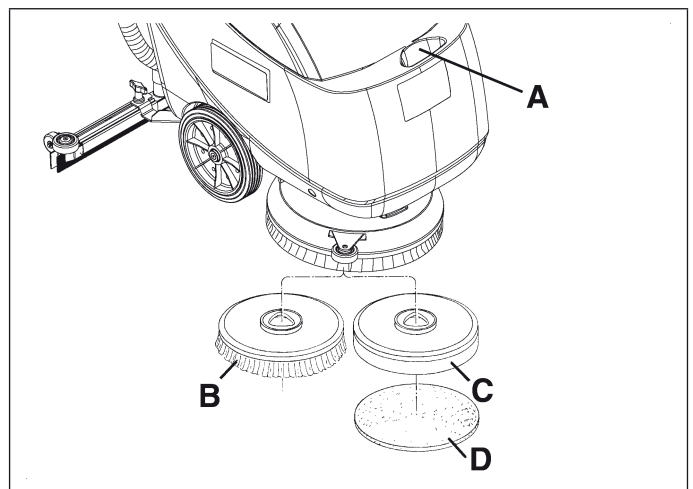

Figure 11
2. Fill the solution tank (A, Fig. 11) with a solution suitable for the work to be carried out. Do not fill the solution tank completely, leave few inches from the edge. Always follow the dilution instructions on the container label on the chemical product used to create the solution. The solution temperature must not exceed 100°F (40°C).
According to the kind of cleaning to be carried out, the machine can be equipped both with the brush (B, Fig. 11) and the pad-holder (C) with pad (D).
5. Place the brush (B, Fig. 11) or the pad-holder (C) with pad (D) under the cover.